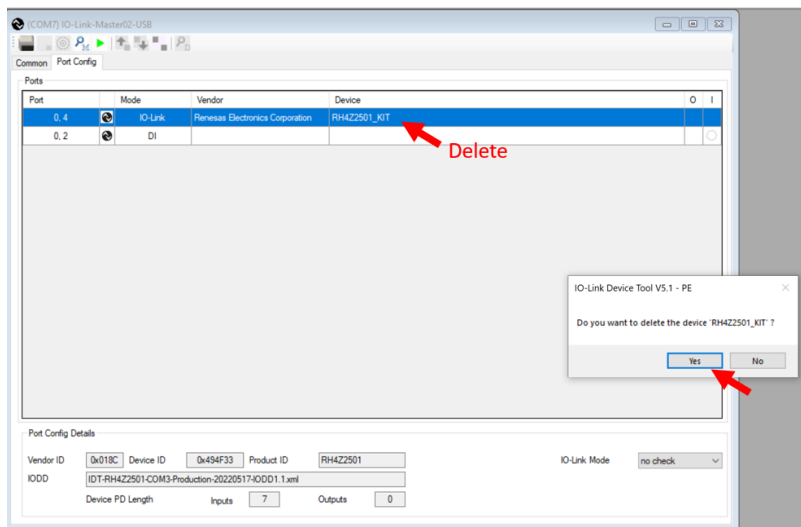

Figure 11. Deleting IODD Files
- c. Delete old IODD by 'right click->delete' and clicking 'Yes' in the pop-up confirmation window, see Figure 11.